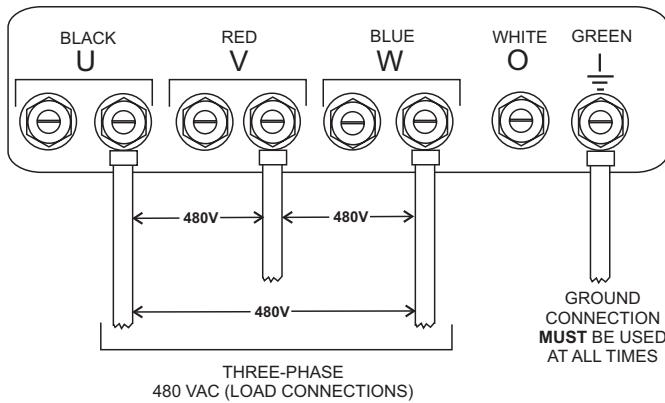

**Figure 23. UVWO Terminal Lugs
5. Connect the load wires to the UVWO terminals as shown in Figure 23.